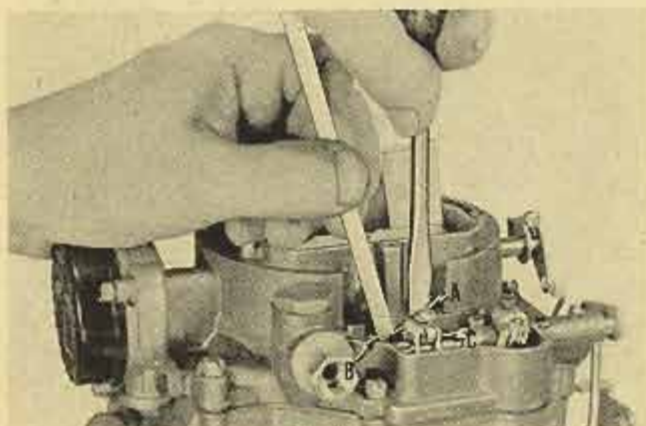

Fig. 11
4. Metering Rod Adjustment: *The metering rods must be adjusted after the pump adjustment has been made.* First, loosen the clamp screw, "A," Fig. 11. With the idle speed screw backed out and the throttle valves seated in the bores of the flange body, press down on the vacuumer link with a scale, "B," or small screw driver until the metering rods bottom. While holding the rods in this position, revolve the clamp, "C," forward away from the air horn until lip of clamp contacts the vacuumer link, then tighten the clamp screw. To check for proper metering rod adjustment, hold the vacuumer link and rods at their bottomed position and open the throttle. There should be no lost motion before the link and rods move upward when the throttle lever is moved from its closed position. Install the dust cover using a new gasket.